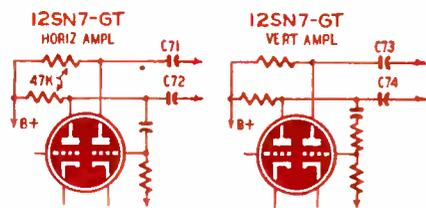

Fig. 1—Horizontal and vertical amplifier circuits of Hallicrafters 505.
**Insufficient width, width control ineffective.** Open 47,000-ohm plate resistors in 12SN7-GT horizontal amplifier. (See Fig. 1.)
**505.** Picture deflected toward upper right of screen (vertical or horizontal centering controls ineffective). Leaky .05- $\mu$ f, 6-kv coupling capacitor C73 (Fig. 1), .0005- $\mu$ f, h.v. 6-kv capacitor